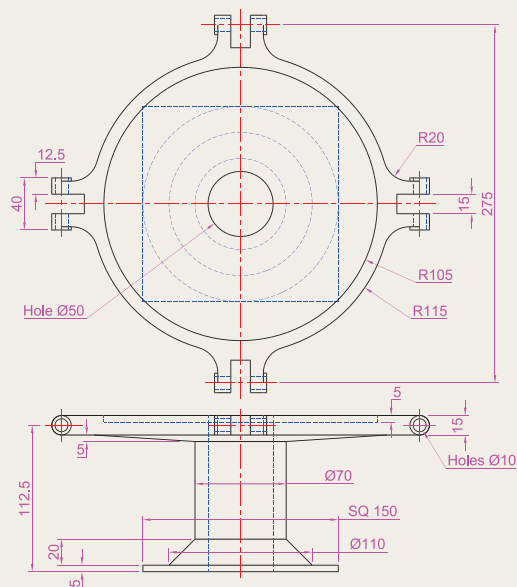
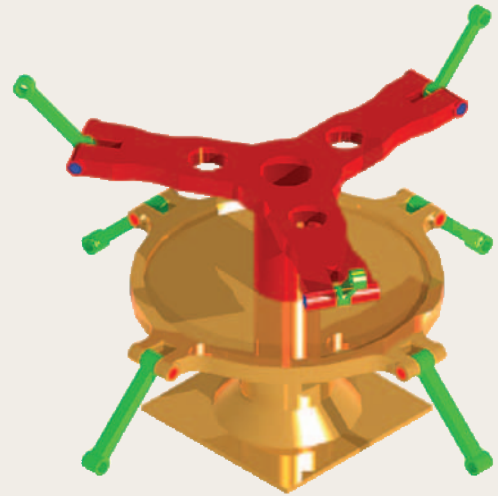

Fig. 18.28 Exercise 4 – first orthographic projection
Fig. 18.31 Exercise 4
- 4.** A more difficult exercise: a rendered 3D model of the parts of an assembly are shown in Fig. 18.31. Working to the details given in the three orthographic projections (Figs. 18.28, 18.29 and 18.30), construct the two parts of the 3D model, place them in suitable positions relative to each other, add lighting and materials and render the model.